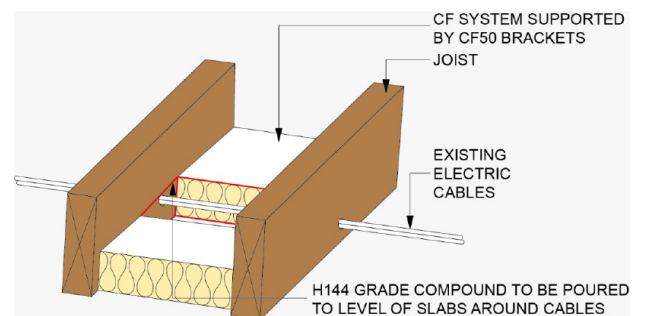
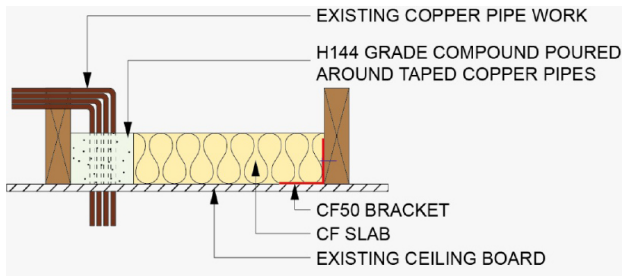
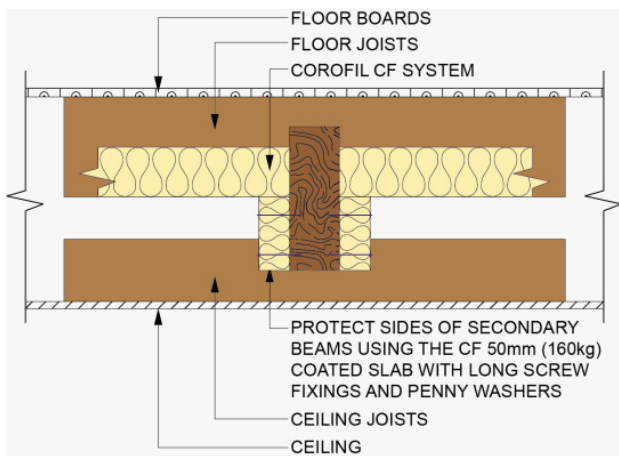

Figure 1: Fire protection where existing horizontal cables are present within fire protection zone.
Figure 2: Fire protection detail where existing pipes are penetrating vertically through an existing floor.
Figure 4
8. Where penetrations occur in the CF Fire Protection System floor, please see Figure 1, Figure 2 and Figure 4. Any penetrations not explained above, please contact our Technical Department.